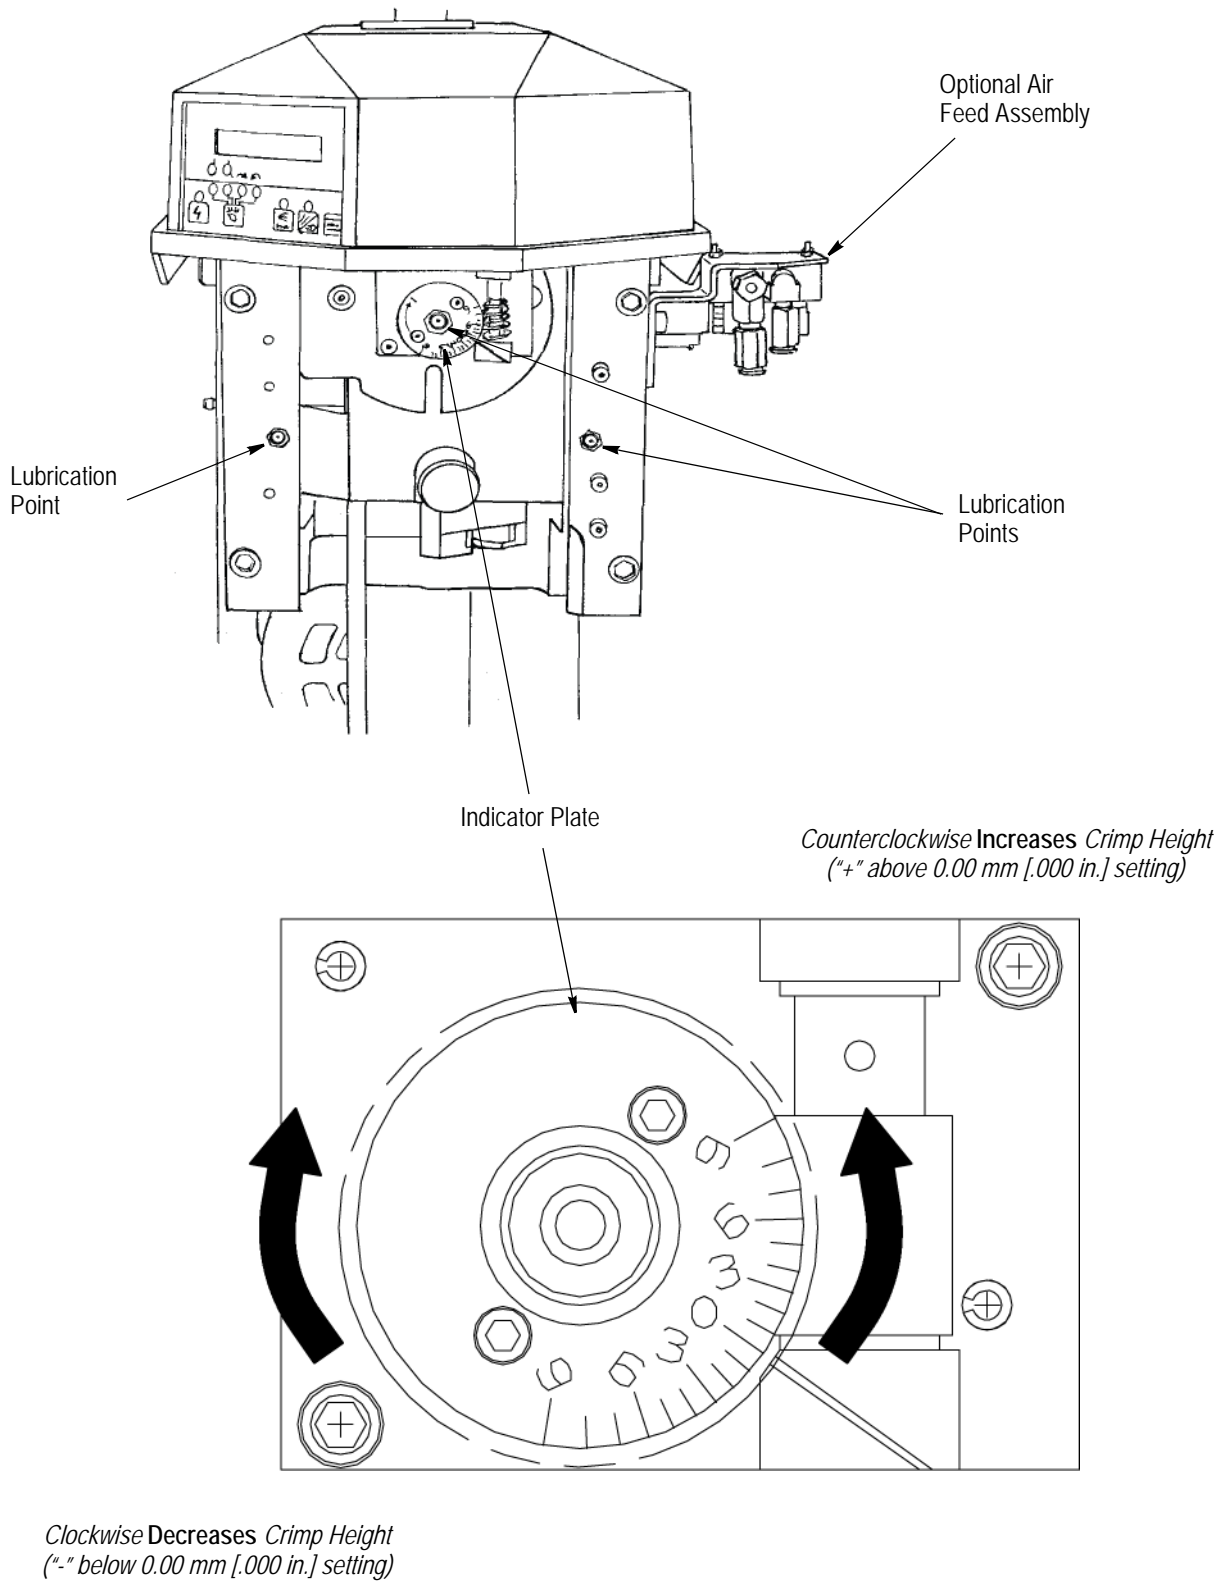

Figure 21
*Moving the indicator plate in either direction will change the crimp height by approximately 0.013 mm [.0005 in.] per step. See Figure 21.*